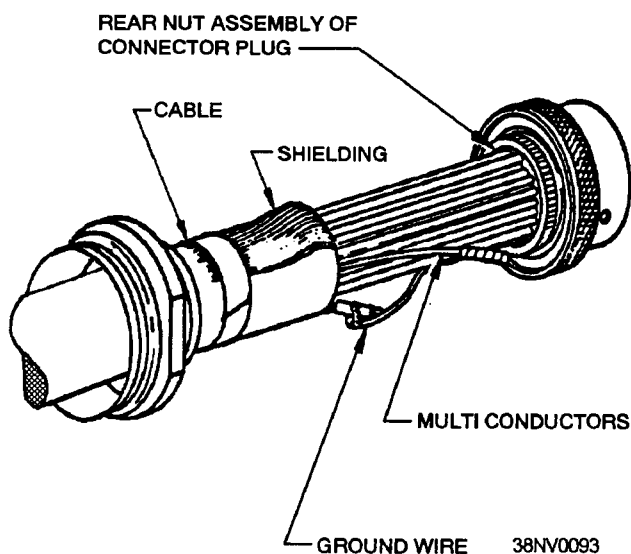

Figure 2-31.—Grounding a cable.
computers or digital equipment, and to interconnect units of the same computer together. We limit our discussion to I/O cables. The **interfacing standards** provide guidelines on the type and maximum cable length to be used for the I/O data cables. The number of conductors in each cable varies with type of computer. A cable can have from 2 to 120 conductors. The cable is grounded with a signal ground and/or to its common connector ground. If it has shielding, the shielding is also grounded to the connector (fig. 2-31). The cables must also be protected (shielded) from EMI and RFI. This is accomplished with a solid or braided covering of nonferrous conductive material, preferably copper. The cable is completely covered throughout its length. This insulated conductor or conductors provide high levels of RF attenuation to potential sources of compromising emanations (CE), such as RFI. This is not required for all cables; a shipboard environment and land-based operational sites, such as an ASWOC, are two examples of situations in which cables must be protected. We discuss some of the more common types of cables used for I/O transfer of data. They are flat, ribbon, twisted component, coaxial, and, fiber optic cables.